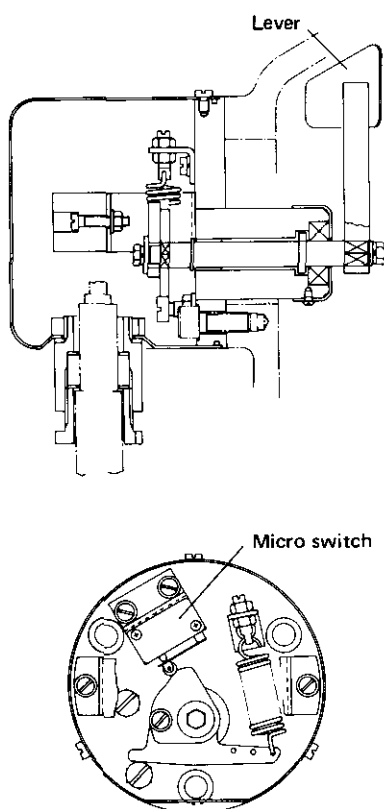

Fig. 7-7
2.8.2 Sludge discharge switch (Refer to Fig. 7-7)